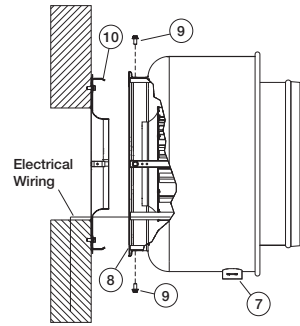

Figure 3
3. Once the mounting plate has been attached to the wall, the unit can be installed. The unit should be aligned with the breather tube (7) pointing down. The electrical chase should be guided through the hole in the motor compartment. The horizontal support channels (8) should slide over the mounting angle clips (10) on the mounting plate until the holes in the windband and clips are aligned. Replace fasteners (9) and tighten. Wiring now can be done. Consult local code authorities for your specific requirements. *Reference Figure 3.*